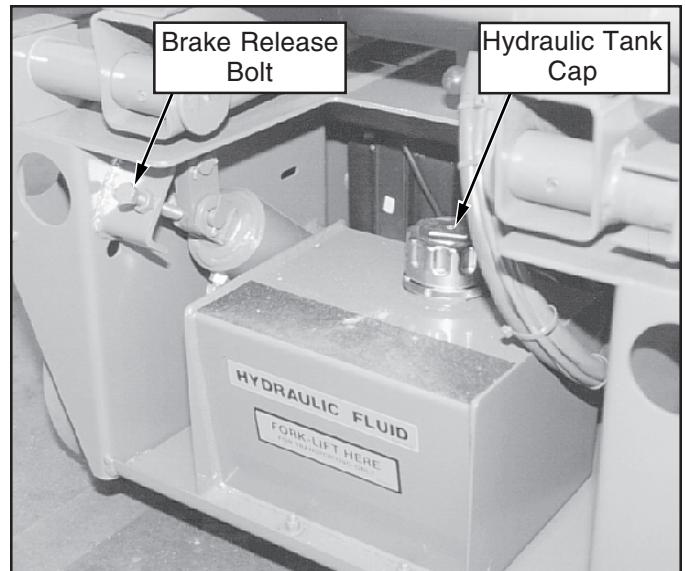

Figure 4: Chassis Rear View
5. Check that AC extension cord has been disconnected from the plug in the right Chassis Module (Figure 4) and the module door secured.
Parking Brake Release (Figure 4)